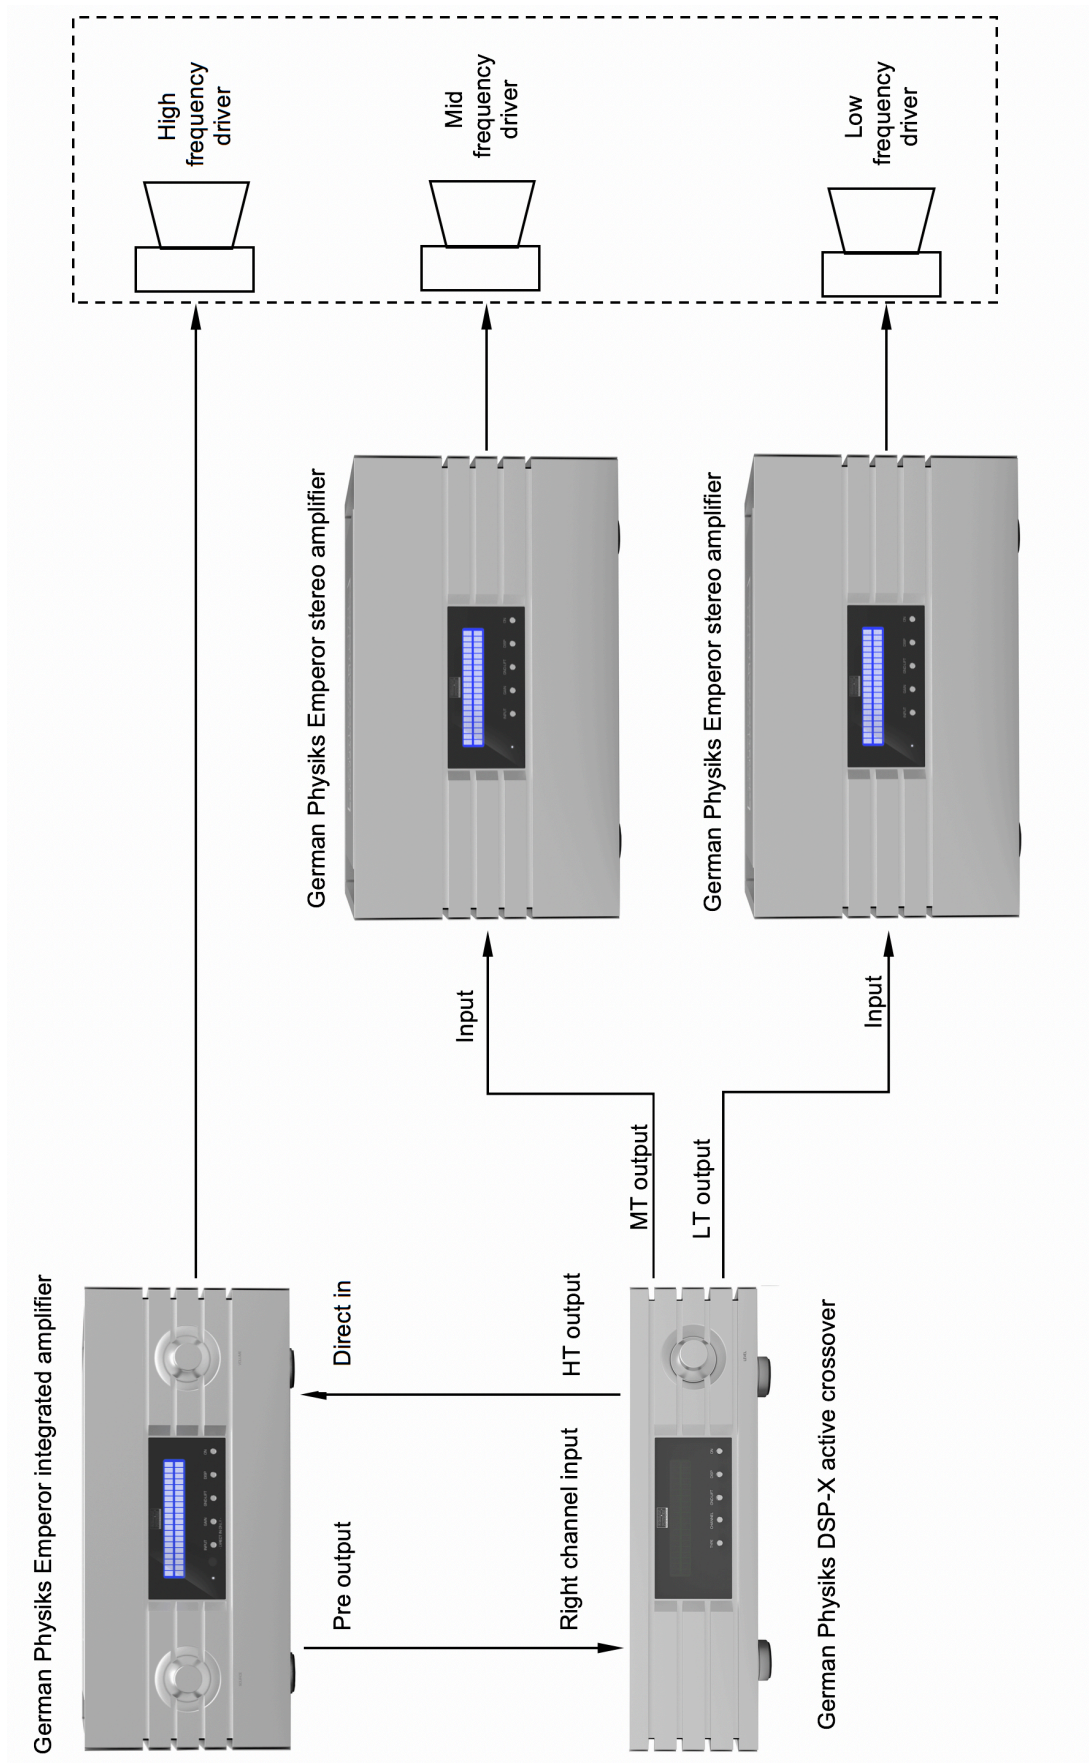

Figure 6. Using the Emperor integrated amplifier with an active crossover
In this example we are illustrating how a system with a 3-way loudspeaker would be configured – figure 6. With a 2-way loudspeaker only one additional power amplifier per channel would be needed.
For clarity, the connections for only one loudspeaker are shown in figure 6.
1. Set the equipment shown in figure 6 in the locations where they are to be used, paying attention the ability of any supports used to be able to carry the loads imposed, cautions regarding not blocking cooling vents and the other safety precautions mentioned at the start of this manual.